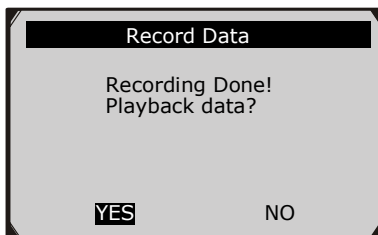

Figure 5.27
- 8) The code reader keeps recording PID data until the user presses the **ESC** button, the selected memory location is full, or it completes recording. A message prompting to playback data shows on the screen. (Figure 5.27)